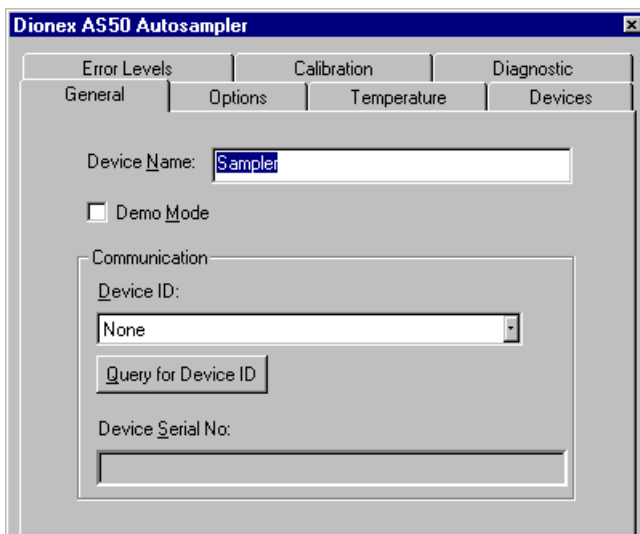

Figure 17. AS50 Configuration Properties
- Click **OK**. A configuration properties dialog box for the device appears. Figure 17 shows an example of the properties for an AS50 Autosampler.